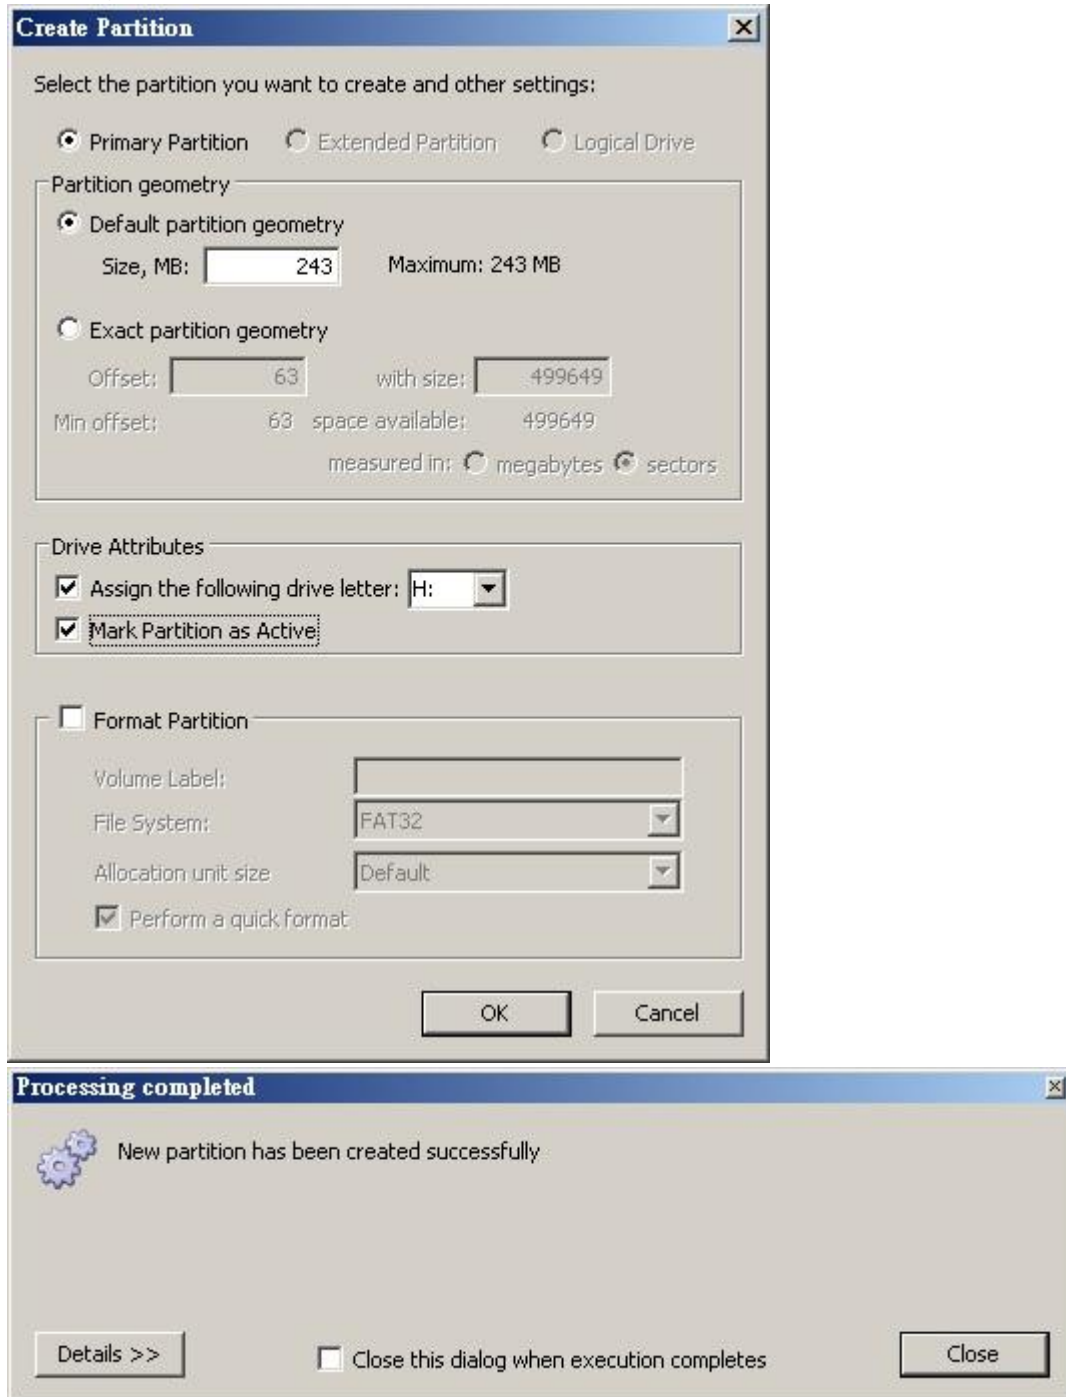

Figure 124
- In the menu mark “partition as active”, press OK, it will then show “successful” (see Figure 124)